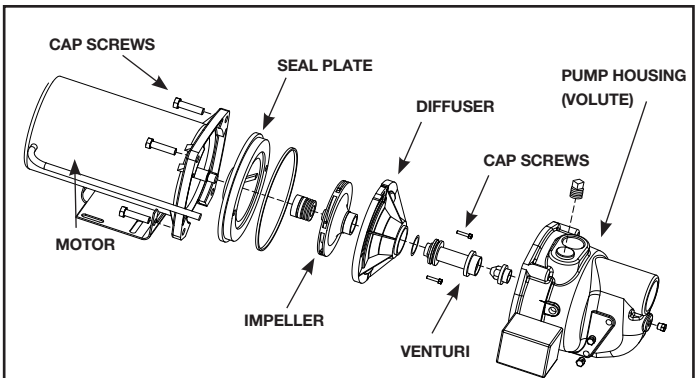

Figure 8 - Shaft Seal
3. Remove the four cap screws holding the pump housing (volute) to the motor (Figure 8).